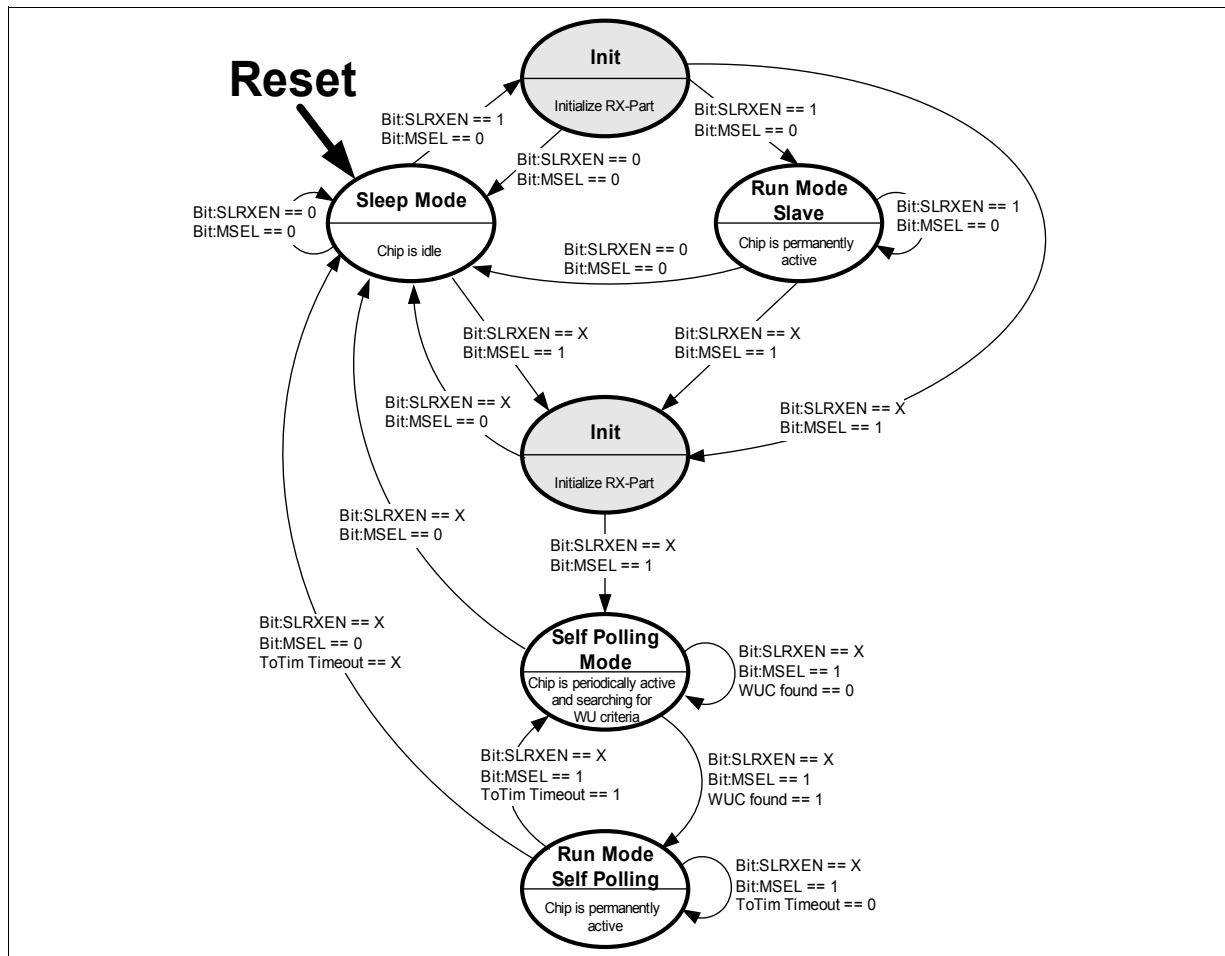

Figure 17 Global State Diagram
This state (item 12 in the state diagram Figure 17) is used for fast reconfiguration of the chip in Slave-Mode. This state can be reached after the Startup Sequencer and Initialization of the chip has been finished from any state from 3 to 11. To reconfigure the chip the SFR control bit HOLD must be set. After reconfiguration in this state the SFR control bit HOLD has to be cleared again. After leaving the HOLD state, the INIT state is entered and the receiver loads the new settings. Be aware that the time between changing the configuration and reinitialization of the chip must be at least 40 μs. Take note that one SPI command for clearing the SFR control bit needs 24 bits or 20 μs at the highest SPI data rate. The remaining 20 μs must be guaranteed by the application.